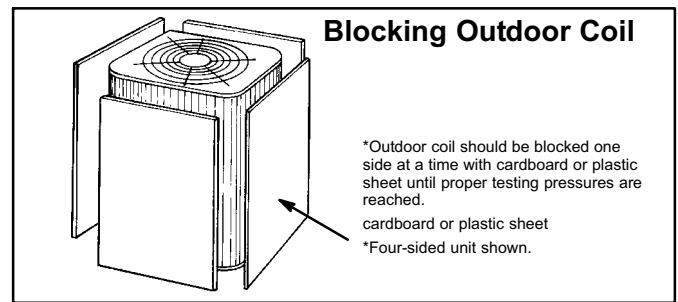

FIGURE 10
1. Restrict the airflow (see figure 10) through the outdoor coil to achieve pressures from 200-250 psig. These higher pressures are necessary for checking the charge. Block equal sections of air intake panels and move coverings sideways until the liquid pressure is in the above noted ranges.